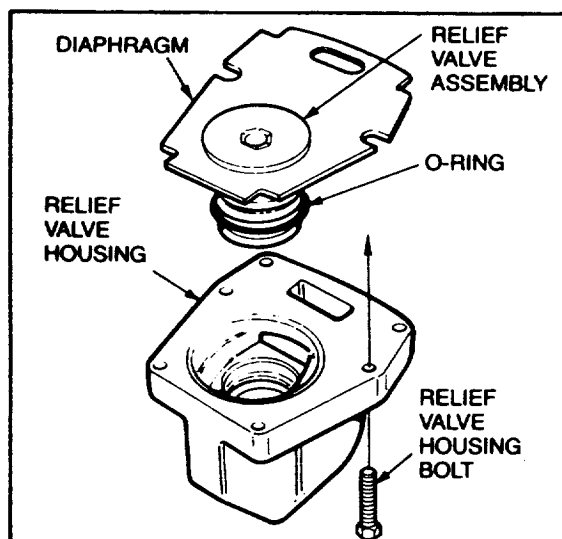

Figure 8A. RELIEF VALVE ASSEMBLY FRP-I
- Align diaphragm plate parallel to flange on housing or bottom case. Diaphragm holes must align with holes in flange. (See Figs. 8A and 8B.) On 1 1/4", 1 1/2" and 2" sizes, the diaphragm plate extends inside the outer surface of the flange.